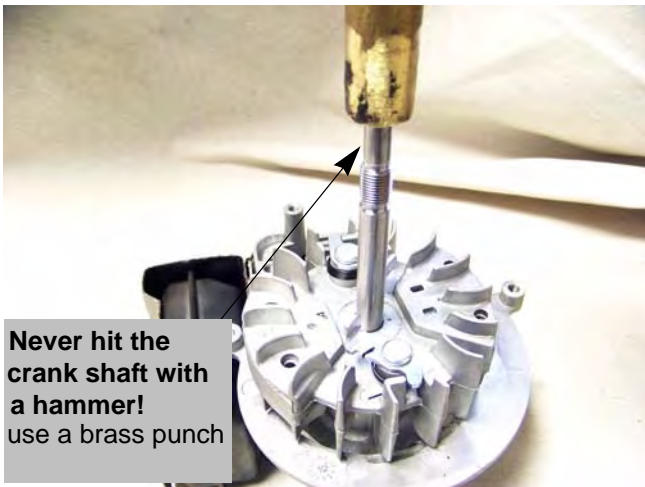

Figure 8.5
8. Remove the flywheel by applying a sharp blow to the crankshaft while gently prying upward with a pry bar. The flywheel will loosen then lift it off. See Figure 8.5.